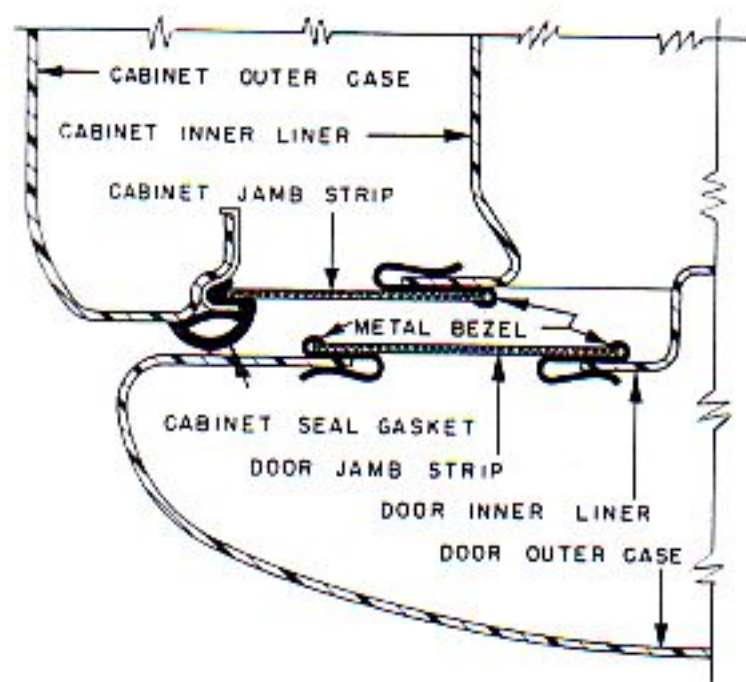

Fig. 261
2. The metal bezels have sufficient play so the inner bezel can be forced away from the edge of the strip to release the strip. See Fig. 261.